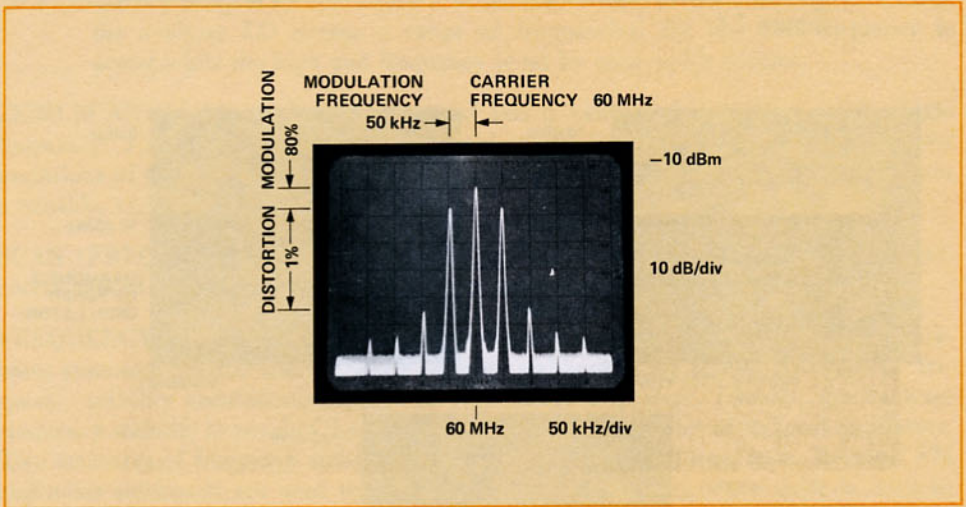

Figure 1.5
3. The spectrum analyzer can be used to measure AM, FM and pulsed RF. Figure 1.5 shows how the analyzer can be used to measure carrier frequency, modulation frequency, modulation level, and modulation distortion.